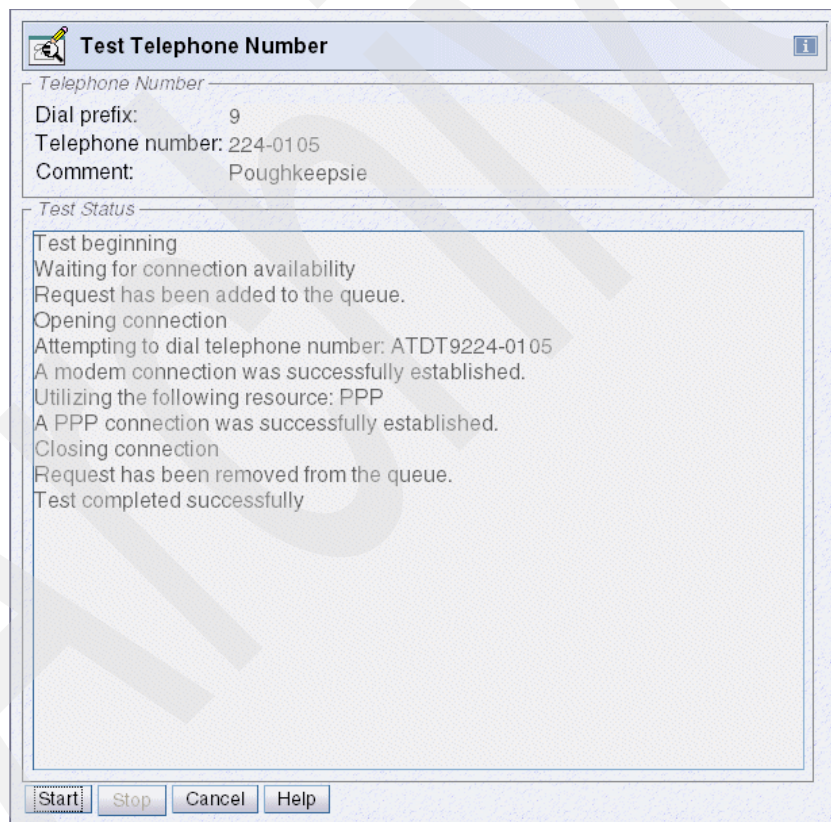

Figure 2-22 Test modem connectivity
- Click **Start** in the returned Test Telephone Number panel (Figure 2-22).